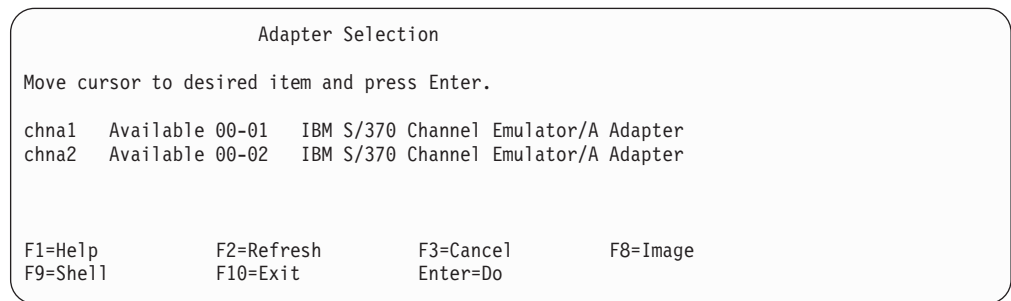

Figure 21. SMIT Adapter Selection Panel
3. Select Load Driver onto S/370 Channel Emulator/A Adapter. The Adapter Selection panel (Figure 21) displays.